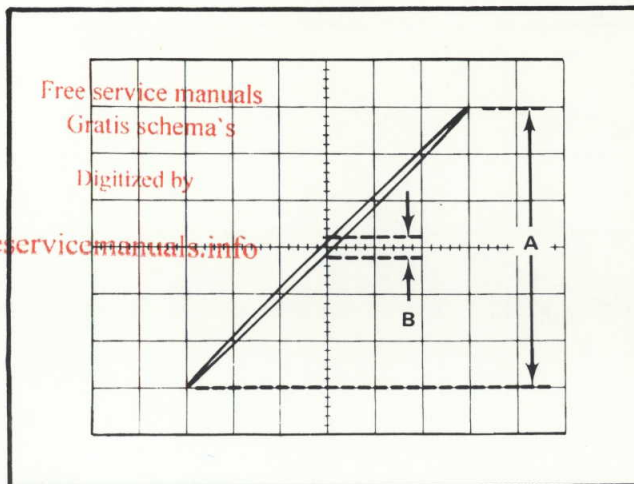

Fig. 2-9. Phase difference measurement from an X-Y display.
3. Position the display to the center of the screen and adjust the Volts/Div switches to produce a display six divisions vertically (Y) and six divisions horizontally (X).
4. Center the display in relation to the center vertical graticule line. Measure the distances A and B as shown in Fig. 2-9. Distance B is the vertical measurement between the two points where the trace crosses the center vertical line. Distance A is the maximum vertical amplitude of the display.
EXAMPLE: Assume a display as shown in Fig. 2-9 where A is 6 divisions and B is 0.4 division.